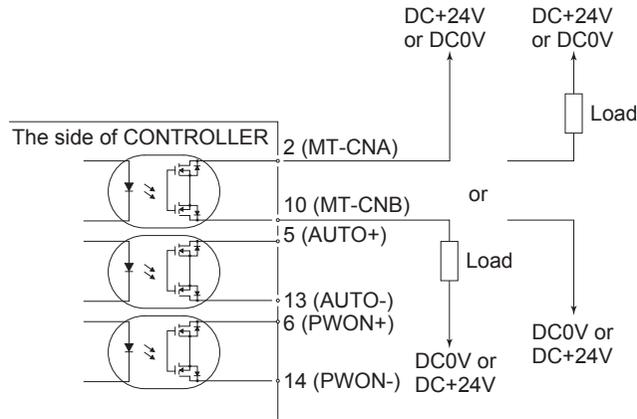

Fig. 53
- Applied Voltage (V) \leq DC+30V
Use an external power source for output circuits. It is recommended to use a separate power supply Input / Output Connector B ④ . Please refer to Fig. 53 for connections.